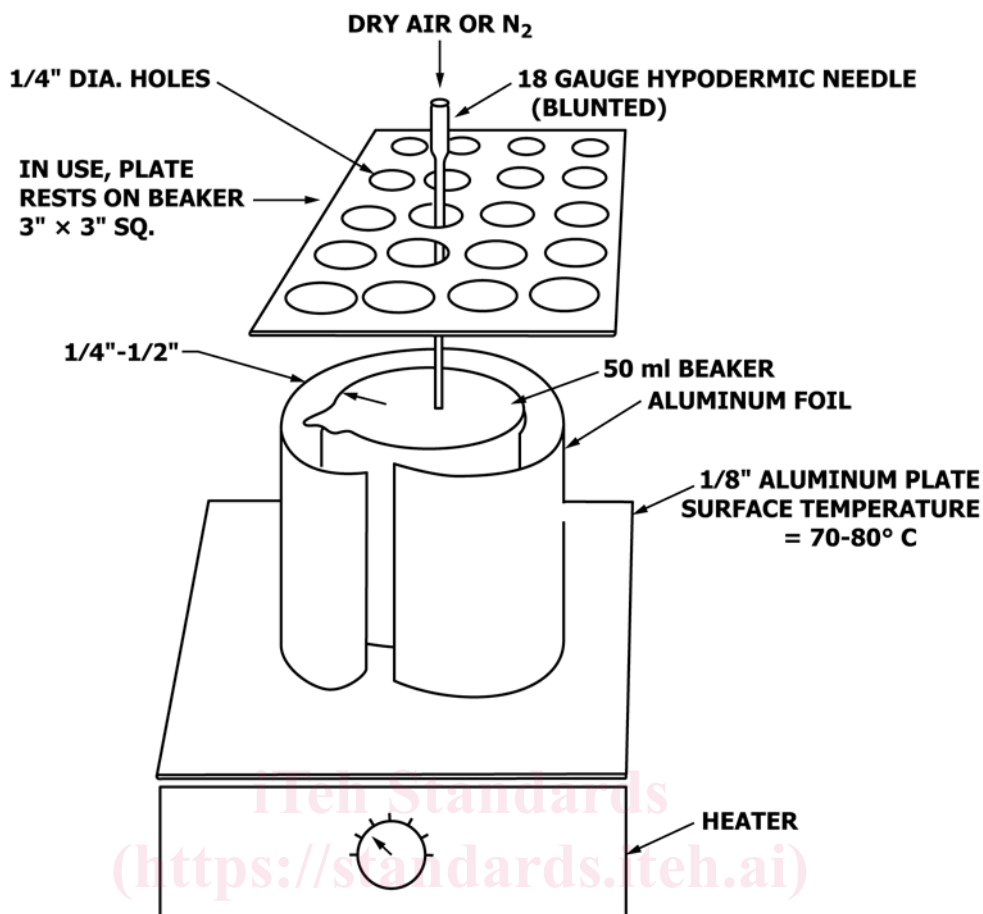

FIG. 2 Solvent Evaporation Assembly for Preventing Accumulation and Loss of Volatile Compounds
5.11 *Solvent Evaporation Assembly*—See Fig. 2.